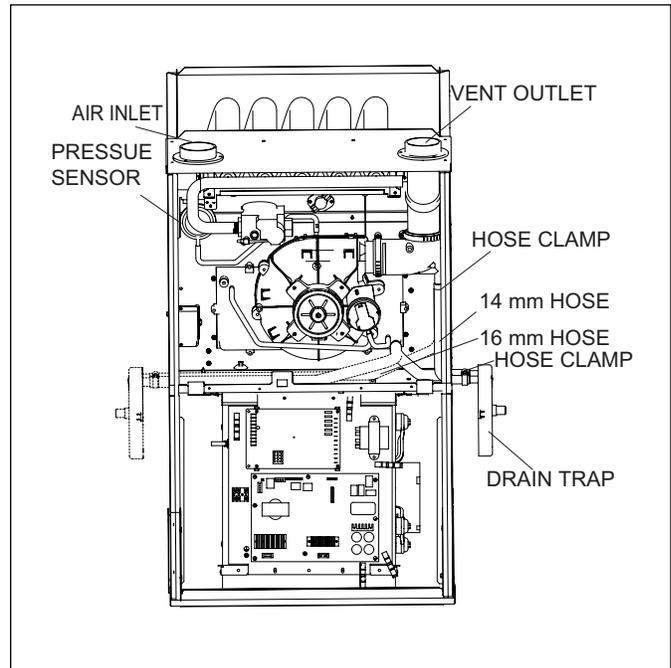

Figure 15 Upflow installation, top venting
Top venting (see Figure 15)
5. Connect $\Phi 16$ mm hose between condensate collector box and drain trap and connect $\Phi 14$ mm hose between inducer drain port and drain trap. (see Figure 15).